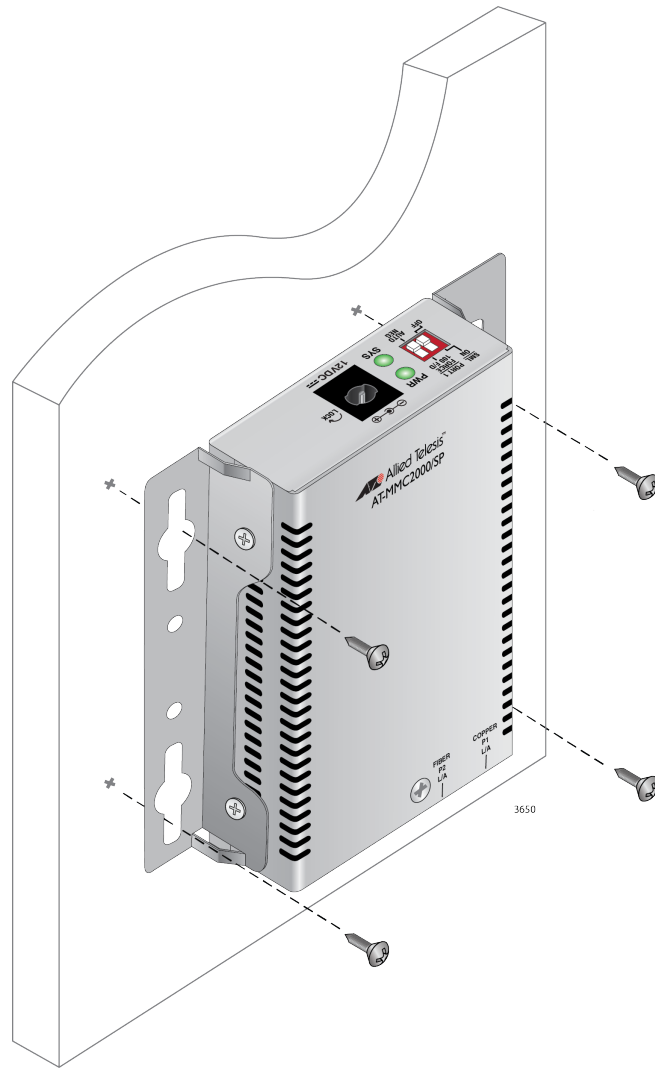

Figure 18. Securing the Media Converter to the Wall
10. Secure the media converter unit to the wall using four screws as shown in Figure 18 on page 50.